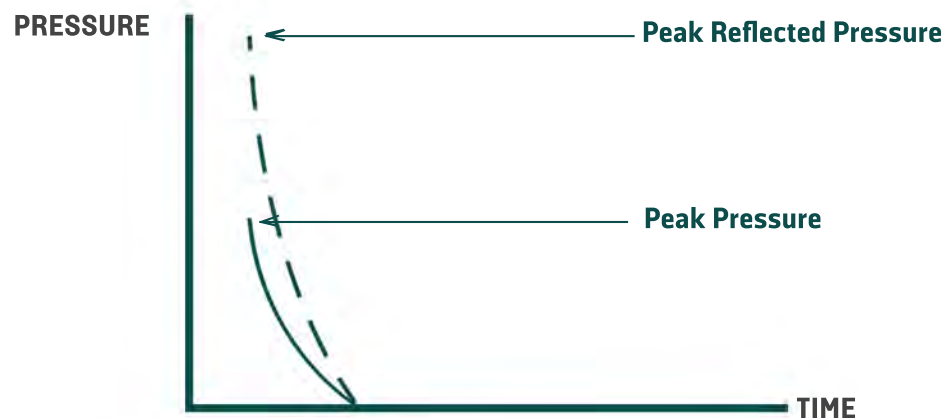

Figure 2
**REFLECTED PRESSURE** - when the blast wave comes in contact with a hard surface, the pressure is reflected. It is important to note that the reflected pressure is always greater than the initial pressure. It can be several times larger. Figure 2 illustrates the reflected pressure curve vs. the original pressure curve.